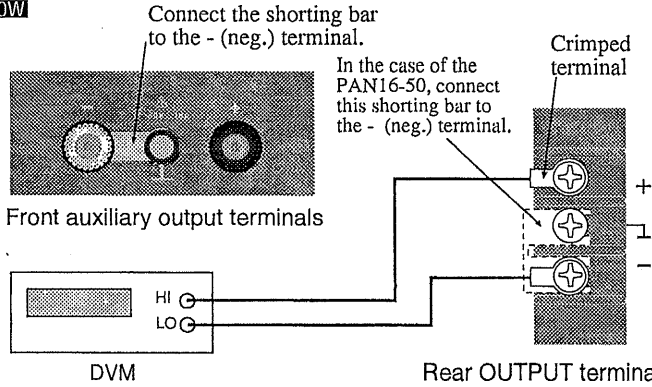

Fig. 5-1B Connection for voltage system calibration (model 1000W)
- For the model 1000W user, see Fig. 5-1B.
- ④ Connect the - (neg.) terminal and the chassis ground terminal (\perp) with the shorting bar.